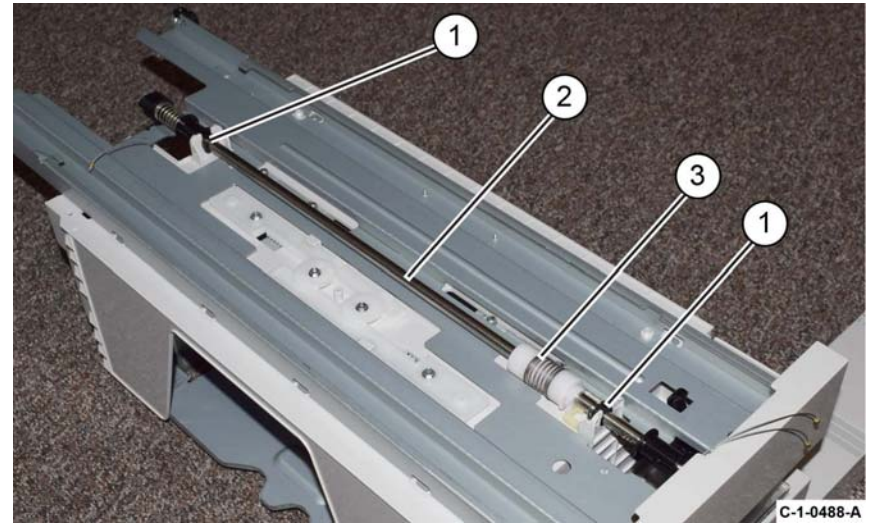

Figure 4 Lift shaft removal
The lift shaft brake, item 3 in Figure 4, is secured on the lift shaft by a pin. Do not lose the pin when the lift shaft is removed.
8. Remove the lift shaft, Figure 4:
- a. Release the front and rear bearings (1).
- b. Remove the lift shaft (2).